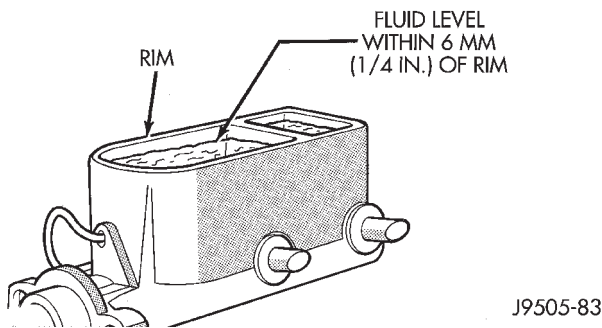

Fig. 7 Reservoir Fluid Level—YJ (2.5L)
(1) Clean the cover and the sides of the brake fluid reservoir.
(2) Detach the bail retainer from the reservoir cover and remove the cover from the reservoir.
(3) The brake fluid level should be 6 mm (1/4 in) below the rim of each reservoir well for XJ and YJ Vehicles (Fig. 7 and 8). If not, add brake fluid as necessary.
(4) Inspect the reservoir cover bail retainer for tension and the cover for proper fit. The cover should fit tight and have a good seal.